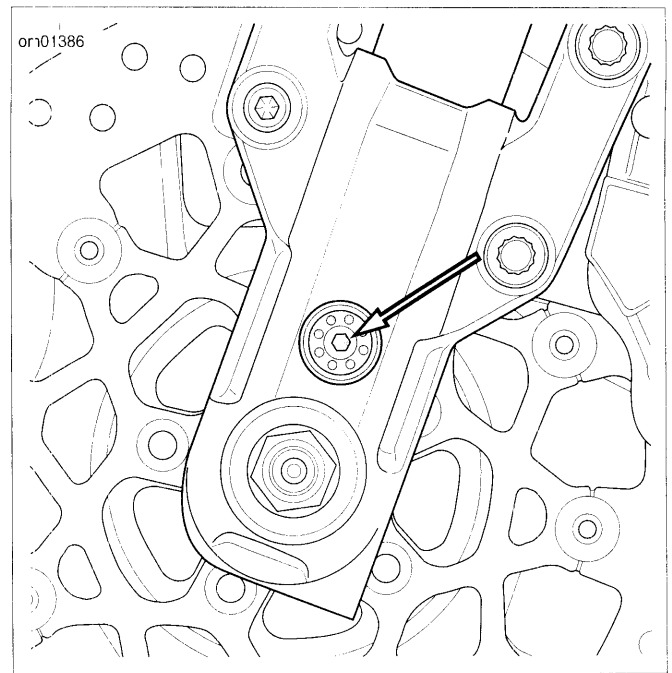

Figure 2-190. Fork Preload Adjuster: XR 1200X
1. See Figure 2-190. Using a metric hex key, turn preload adjuster counterclockwise until it stops. This is the minimum preload setting.